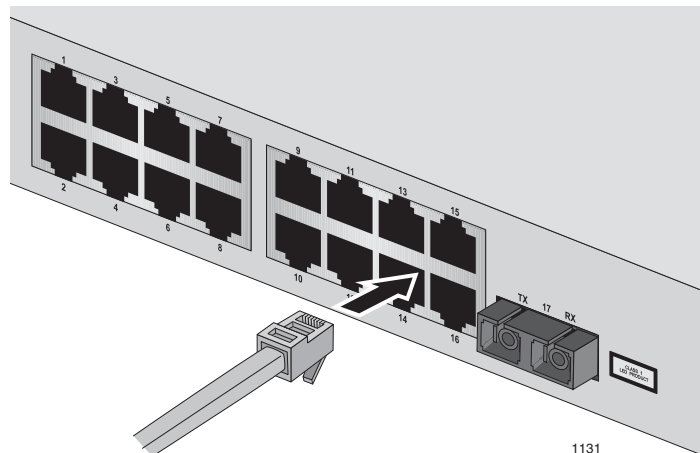

Figure 12. Connecting to the Twisted Pair Port
1. Connect the twisted pair cable to the twisted pair port, as shown in Figure 12.